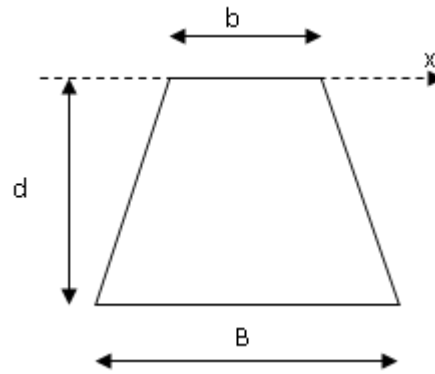

Figure Q4
4. Consider the shape illustrated in Figure Q4.